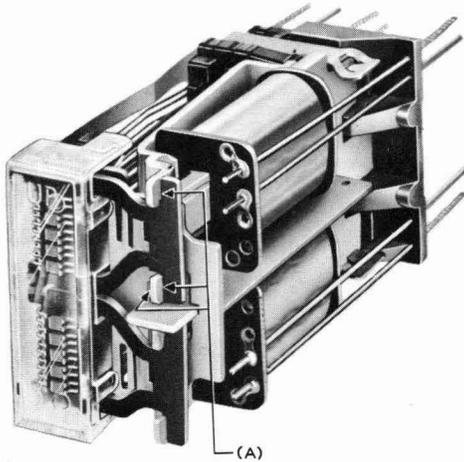

Fig. 1—AK-type Relay
1.01 **Balancing Spring Tension:** Fig. 1(A)—Card bears against associated surfaces on armature and armature bears against backstop—relay unoperated.